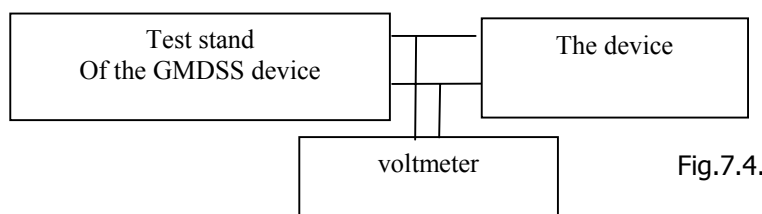

Fig.7.4.
7.9. The signal level on the input of the device in accordance with unit 2.5. is checked under the diagram showed on fig. 7.4.